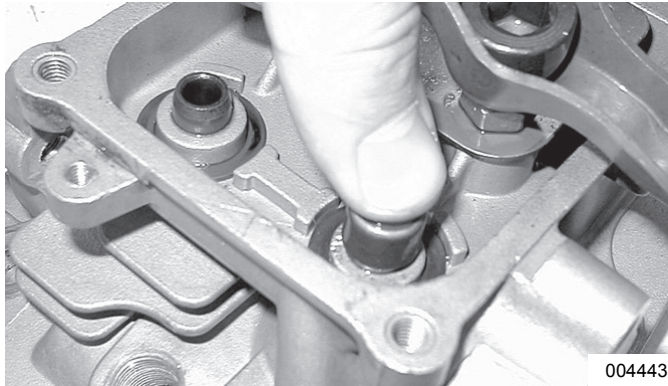

Figure 7-13. Install Valve Stem Seals
- a. See Figure 7-13. Press seal onto intake valve guide bushing until fully seated.